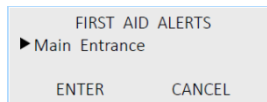

Figure 4-4: Control Panel Display Showing Location of Alert
2. Press the First Aid button to display the programmed location text (Figure 4-4).